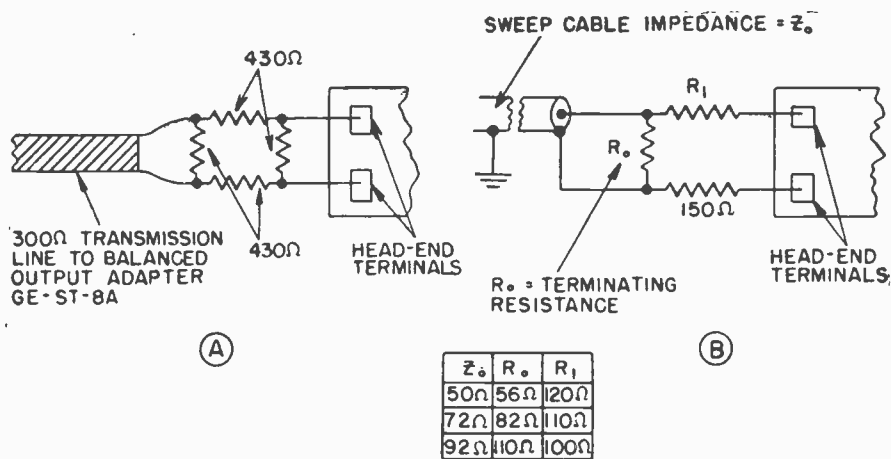

Fig. 3-51: Networks for matching generators with impedances of 50, 75, and 92 ohm output to 300 ohm receiver.
4. *Impedance Matching:* At very high frequencies, response curve measurements are valueless unless the sweep generator output terminals are properly terminated at the input terminals of the receiver. The reason for this is that at these frequencies a mismatch of this type results in standing waves which may or may not seriously affect the observed waveform, depending on the amount of mismatch present in the circuit. It is therefore advisable that some sort of matching network be employed between the generator and the input terminals of the Front End being aligned. Data for typical matching networks for connecting generators with 50, 75, and 92 ohm outputs to a 300 ohm input receiver is given in Fig. 3-51.